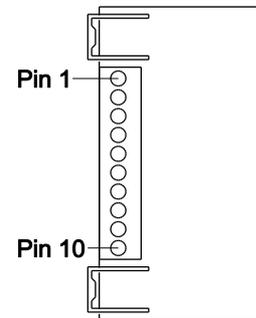

Figure 8 Relay card connector (viewed from connector side)
2. Using the information in the tables above, wire your signal cables to the terminal block (Figure 8).